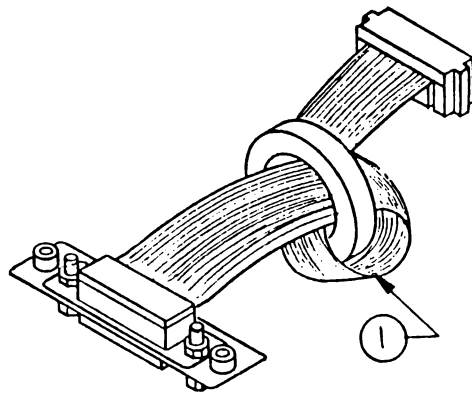

FIGURE 4
- IPL.5 AppleColor Card Cable (Figure 4)
APPLECOLOR CARD CABLE (Figure 4)